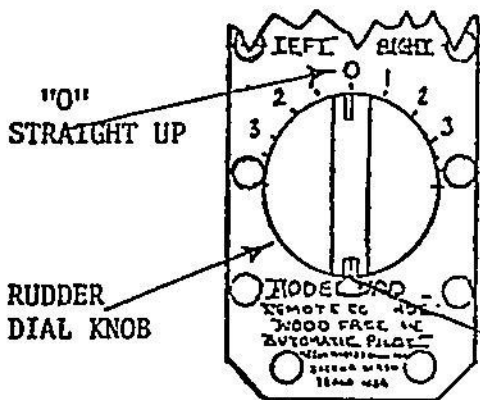
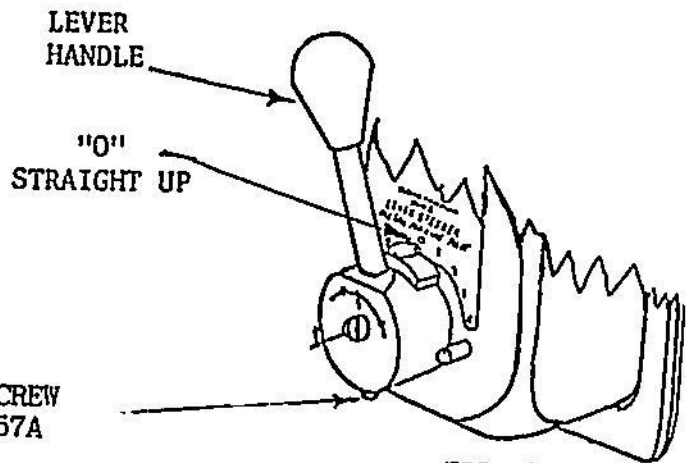

FIG. 8
FIG. 9
- 57A - Rotate Remote RUDDER DIAL until vessel steers straight. Loosen the knob screw on the remote (Fig 8 and Fig 9). Rotate the knob to "0" (zero). Tighten the knob screw.